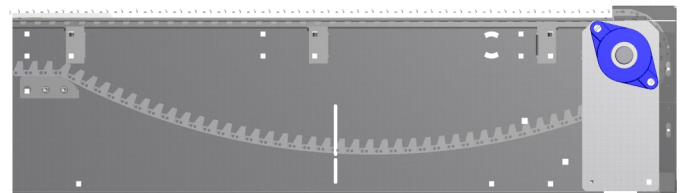

Figure 2
- Catenary length – (See Figure 2)